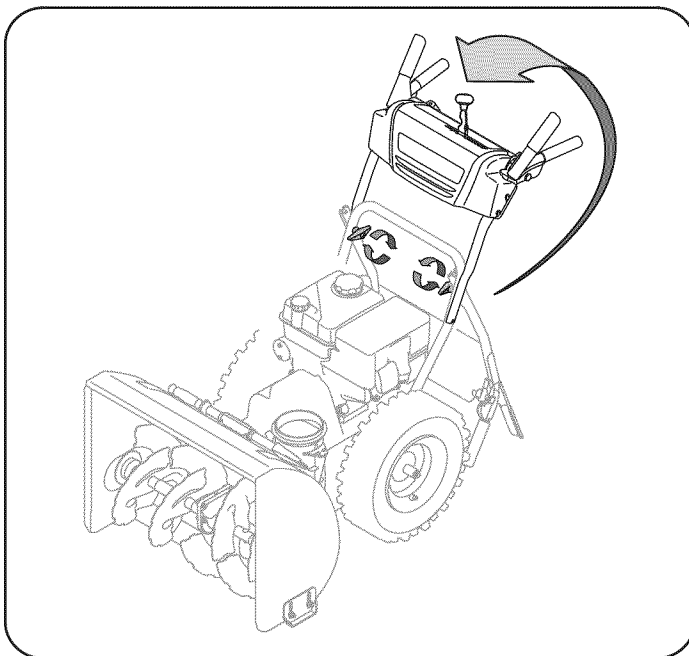

Figure 1
2. Observe the lower rear area of the snow thrower to be sure both cables are aligned with roller guides before pivoting the handle upward. See Figure 1.